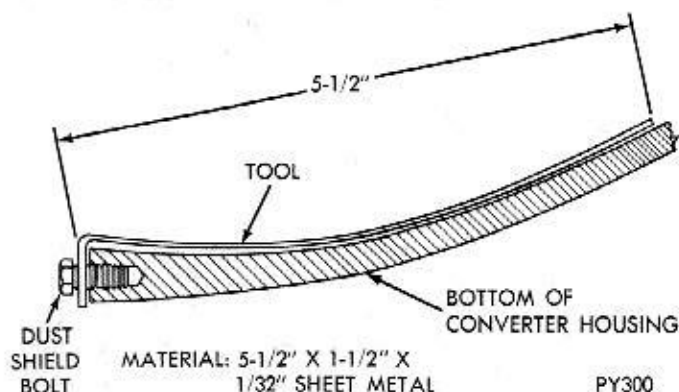
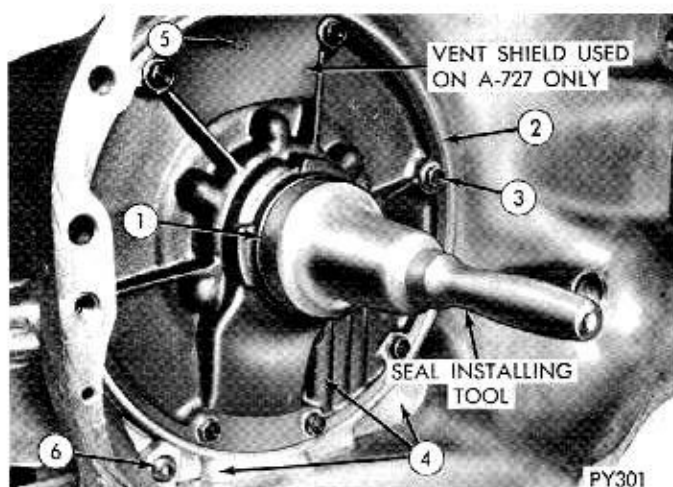

Fig. 1—Leak Locating Test Probe Tool
Fig. 2—Transmission Converter Area
- (1) Remove converter housing dust shield.
- (2) Position vehicle with front lower than back so that accumulated fluid in converter housing will drain out. Wipe bottom inside of converter housing as dry as possible. A solvent spray followed by compressed air drying is preferable.
- (3) Fasten test probe (Fig. 1) securely to convenient dust shield bolt hole. Make certain converter is cleared by test probe. Tool must be clean and dry.
- (4) Run engine at approximately 2,500 rpm with transmission in neutral, for about 2 minutes. Transmission must be at operating temperature.
- (5) Stop engine and carefully remove tool.
- (6) If upper surface of test probe is dry, there is no converter leak. A path of fluid across probe indicates a converter leak. Oil leaking under the probe is coming from the transmission converter area (Fig. 2).
- (7) Remove transmission and torque converter assembly from vehicle for further investigation. The fluid should be drained from the transmission and converter. Re-install converter drain plug and oil pan (with new gasket) at specified torque.
Possible sources of transmission converter area fluid leakage shown in (Fig. 2) are: